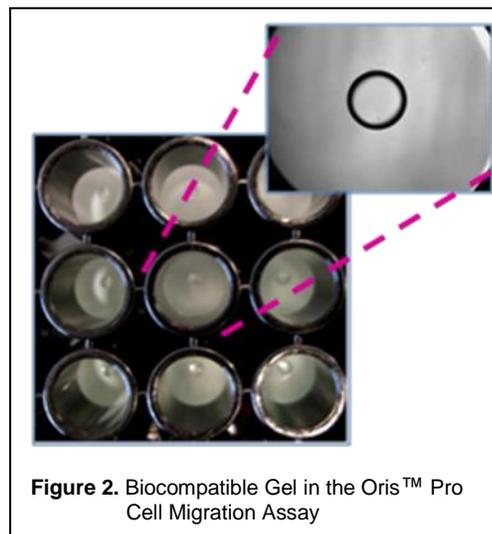

Figure 2. Biocompatible Gel in the Oris™ Pro Cell Migration Assay
4. Incubate the seeded plate(s) containing the Oris™ Pro Biocompatible Gel (see Figure 2) in a humidified chamber (37°C, 5% CO₂) for 30 minutes to 2 hours (cell line dependent) to permit cell attachment.